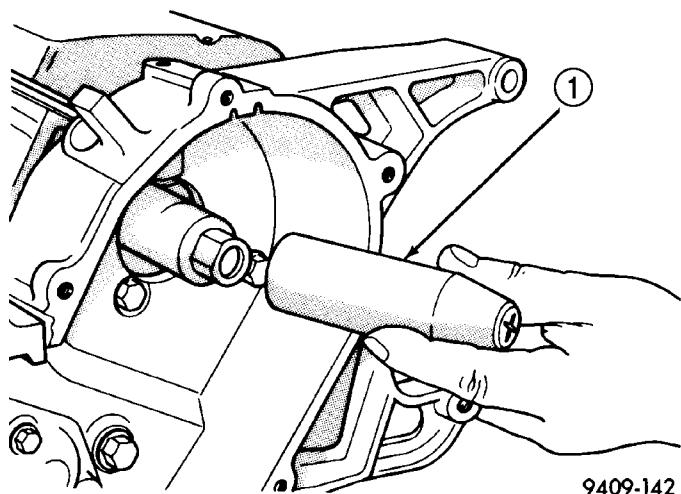
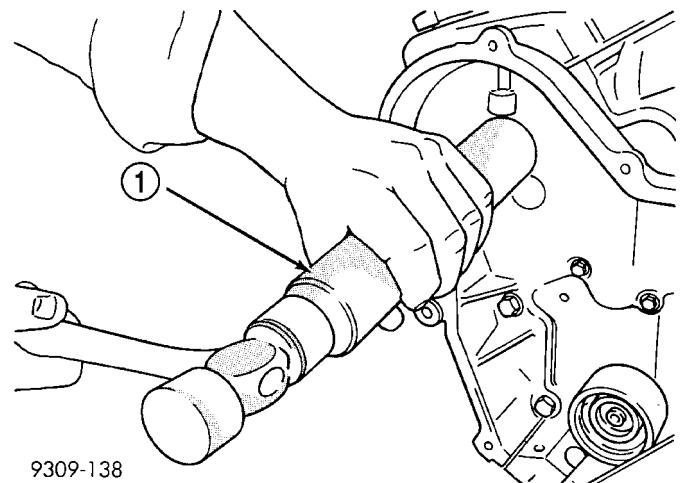

Fig. 17 Camshaft Oil Seal Protector Sleeve
Fig. 18 Camshaft Oil Seal - Installation
(1) Apply light coat of engine oil to the camshaft oil seal lip.
(2) Install the oil seal using Special Tool 6788 Seal Protector Sleeve (Fig. 17) and Seal Installer 6052 (Fig. 18).
(3) Install camshaft sprocket(s). (Refer to 9 - ENGINE/VALVE TIMING/TIMING BELT/CHAIN AND SPROCKETS - INSTALLATION)